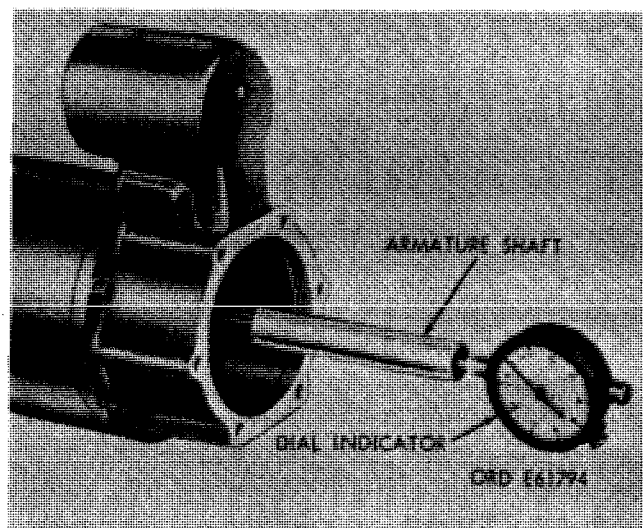

Figure 3-39. Measuring armature end play.
b. Check armature end play as shown in figure 3-39. End play must be 0.015 to 0.070 inch. If end play is excessive, disassemble starter (para 3-7 and 3-10), replace thrust washer, and assemble, (para 3-20).